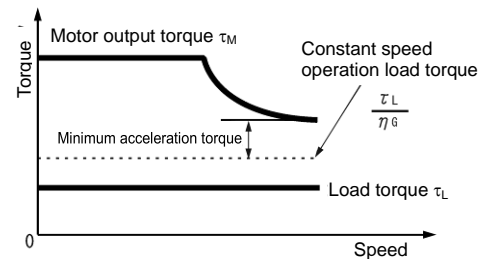

Figure 9.1-3: Example of minimizing acceleration torque
2) Calculate the "Minimum acceleration torque." (See Figure 9.1-3)